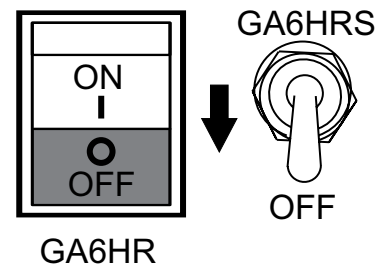

**Figure 29. Engine Fuel Valve Lever (OFF)**
5. Place engine fuel valve lever (Figure 29) in the **OFF** position.